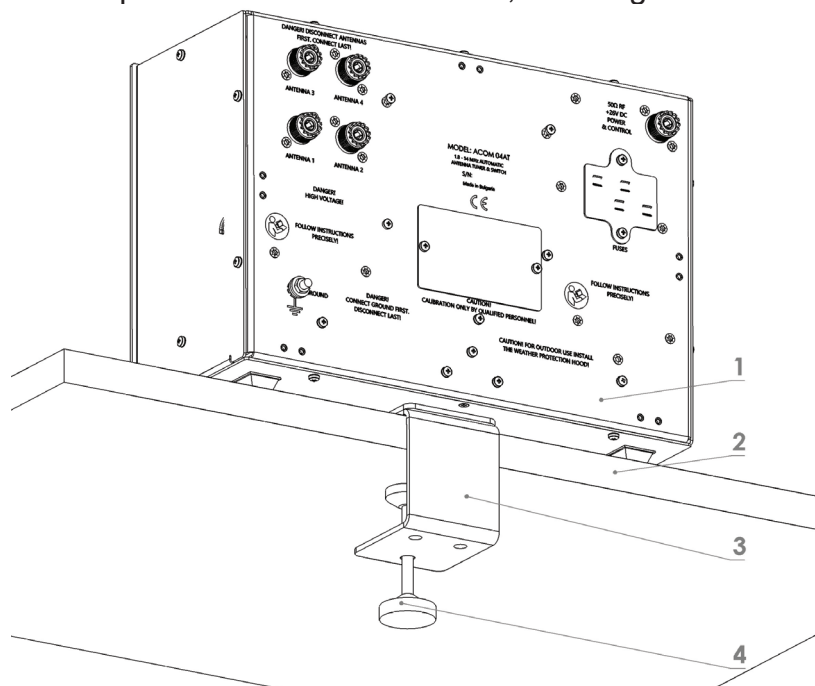

Fig. 2-3. Securing the ATU to a desk
After securing the tuner body (1) on the desk (2) by fastening the bracket bolt (4), the bracket (3) remains hidden from sight – figure 2-3. This ensures both a tidy workspace and the necessary stability of the tuner body together with up to 5 heavy coaxial cables connected to the back side.
Check if the antenna cables and grounding system of your radio station are installed as described in S. 1.5.1. Next, connect the grounding terminal of the tuner labeled GROUND (Fig. 2-3) to the **main grounding plate of the radio station** (appx.1-9).
After connecting the grounding terminal, connect the antenna feeders (up to 4 coaxial cables) to the respective connectors ANTENNA 1 through 4 on the tuner (Fig. 2-3). Without powering up the amplifier, use a coaxial cable to connect the tuner HF input labeled 50W RF +26 VDC POWER & CONTROL (Fig.2-3) to the ACOM transistor amplifiers output labeled RF OUTPUT.